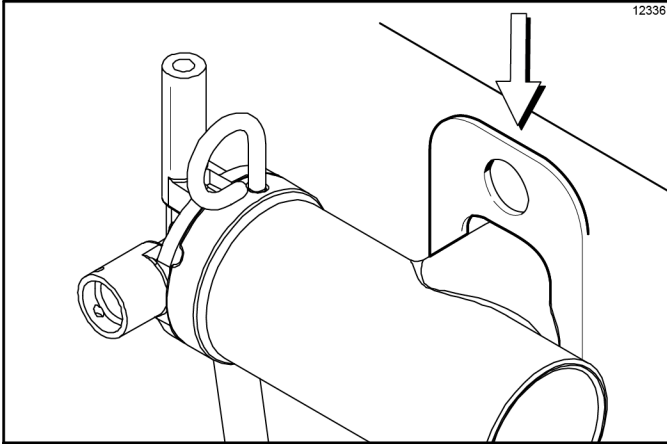

Figure 6-48
3. Install the pump assembly at the rear of the mix hopper. To position the pump on the drive hub, align the drive hole in the piston with the drive crank of the driveshaft. Secure the pump in place by slipping the pump clip over the collar of the pump, making sure the clip fits into the grooves in the collar. (See Figure 6-48.)